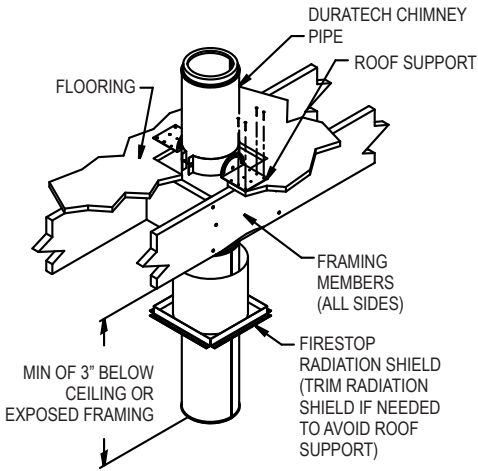

Figure 22
The Roof Support may be used at the bottom of a Chimney installation (**Fig.22**). This may be useful for some basement installations. Maintain a minimum of 2" clearance to combustibles at all times. The DuraTech Chimney needs to extend a minimum of 3" below the finished ceiling or exposed framing members. Please note that you cannot extend the chimney all the way to the appliance - you must use connector pipe.
1. Complete Steps B1-B3 from Roof Support Section. For Step B3, rather than installing the Roof Support on the roof, attach the Roof Support Brackets to floor using (4) 8 penny nails or (4) #8, 1-1/2" screws per side (**Fig.22**).
finished ceiling or framing members. Trim the 'tube' portion of the Firestop Radiation Shield as needed if it interferes with the Roof Support Installation (**Fig.22**).